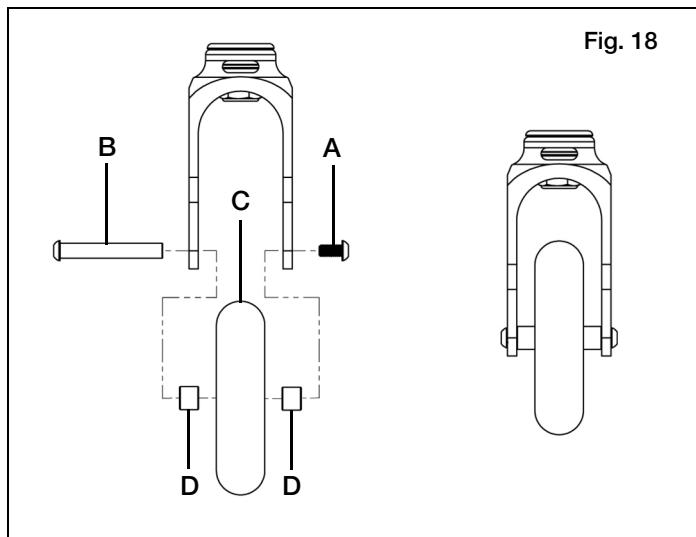

Fig. 18
- a. Using two 4mm hex (Allen) wrenches, turn the button head cap screws (Fig. 18:A) counter-clockwise until one of the button heads detaches from the internally threaded axle.
- b. Remove the remaining cap screw/axle (Fig. 18:B) from the caster assembly. Be sure to catch the caster spacers (Fig. 18:D) if they fall out.
- c. Move the caster (Fig. 18:C) and spacers (Fig. 18:D) to the desired hole in the fork. Reinsert the cap screw/axle (Fig. 18:B). Reinstall the second button head cap screw (Fig. 18:A) and tighten to 80 in./lbs (9.04 N\*m).